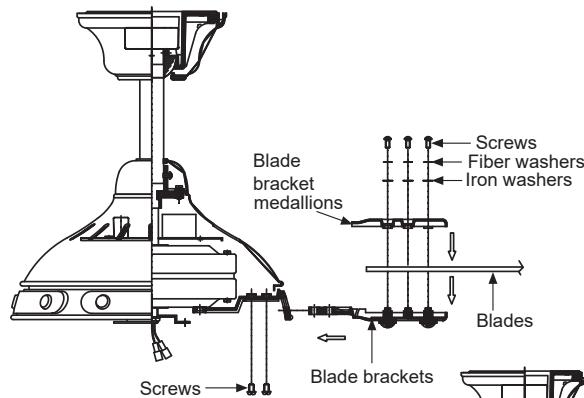

Fig. 17
**Step 1.** Place a blade between a blade bracket and a blade bracket medallion. Attach all three pieces using the screws , fiber washers and iron washers provided. (Fig. 17)
**Step 2.** Attach each blade assembly to the motor using two mounting screws for each blade assembly. (Fig 17)